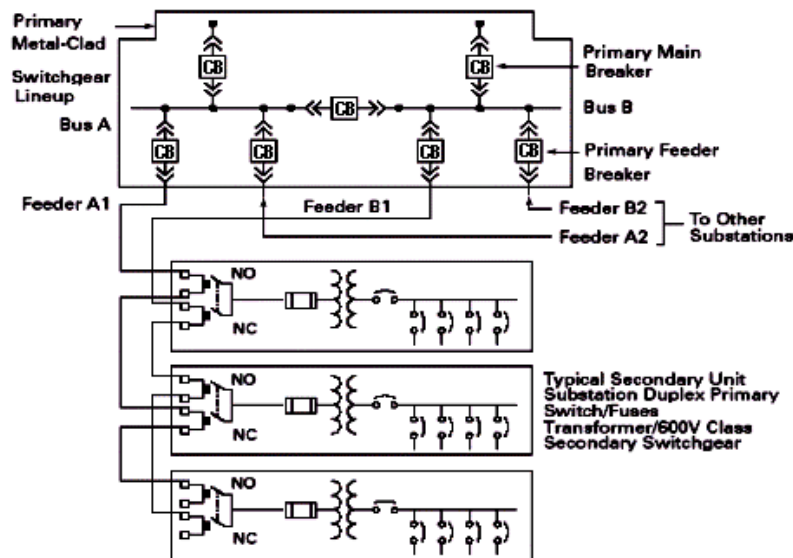
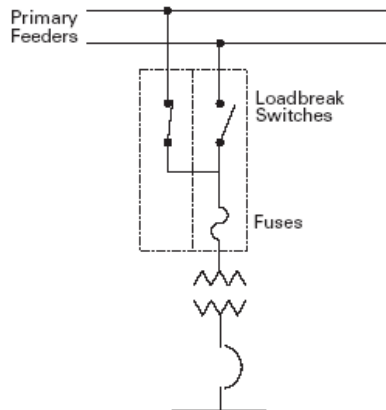
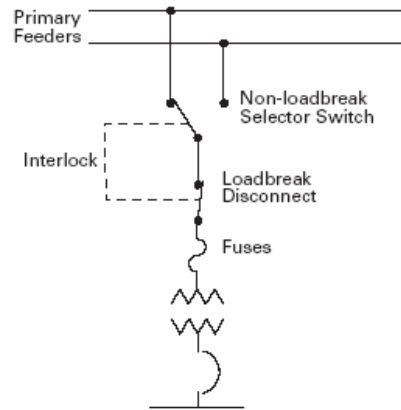

Fig. 13 Basic Primary Selective – Radial Secondary System.
Fig. 14 Duplex Fused Switch In Two Structures.
Fig. 15 Fused Selector Switch In One Structure.
The primary selective – Secondary radial system shown in Fig. 13 differs from those previously described in that it employs at least two primary feeder circuits in each load area. It is designed so that when one primary circuit is out of service, the remaining feeder or feeders have sufficient capacity to carry the total load. Half of the transformers are normally connected to each of the two feeders. When a fault occurs on one of the primary feeders, only half of the load in the building is dropped. Duplex fused switches shown in Fig.13 and detailed in Fig. 14 are the normal choice for this type of system. Each duplex fused switch consists of two (2) load break 3 pole switches each in their own separate structure, connected together by bus bars on the load side. As an alternate to the duplex switch arrangement, a non-load break selector switch mechanically interlocked with a load break fused switch can be utilised as shown in Fig. 15. In Fig. 13 when a primary feeder fault occurs, the associated feeder breaker opens, and the transformers normally supplied from the faulted feeder are out of service. Then manually, each primary switch connected to the faulted line must be opened and then the alternate line primary switch can be closed connecting the transformer to the live feeder, thus restoring service to all loads. Note that each of the primary circuit conductors for Feeder A1 and B1 must be sized to handle the sum of the loads normally connected to both A1 and B1. Similar sizing of Feeders A2 and B2, etc. Is required.